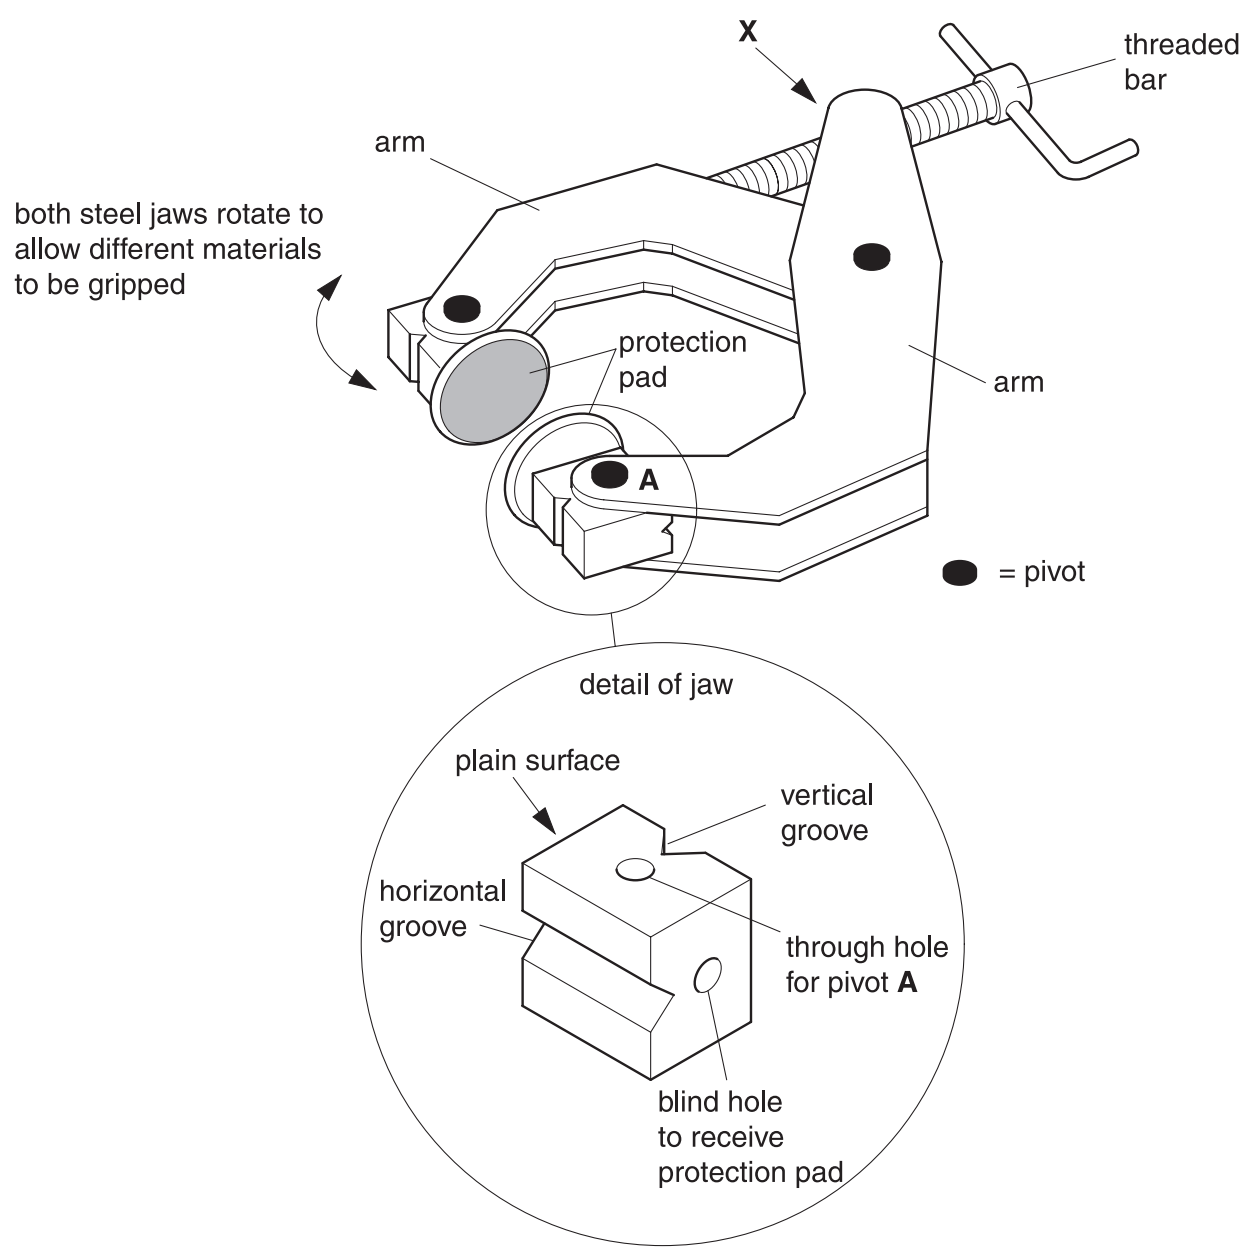

Fig. 9
- 9 Fig.9 shows a 'crab clamp' which is described by the manufacturers as 'A new concept clamping'. The manufacturers state that 'It is designed to perform a variety of holding functions and outdates the G clamp'.